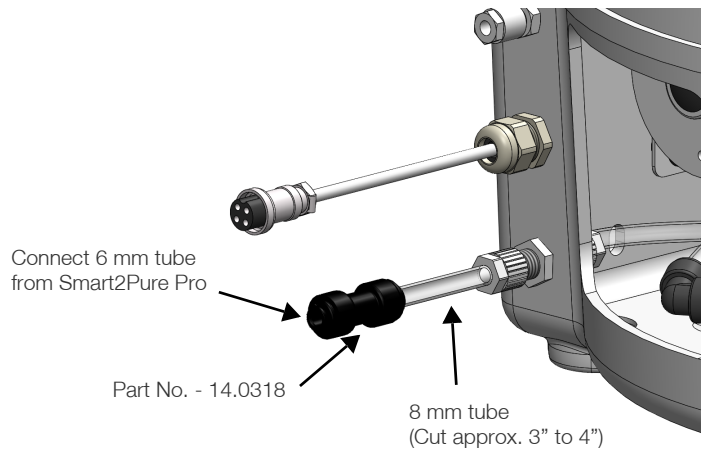

Figure 18. Tank Flow connection
4. Connect 6 mm tubing from Tank Flow connector on Smart2Pure Pro, to the Tank Flow connector on Tank using straight reduction connector (part no. - 14.0318) and 8 mm tube from kit (refer **Figure 18**).